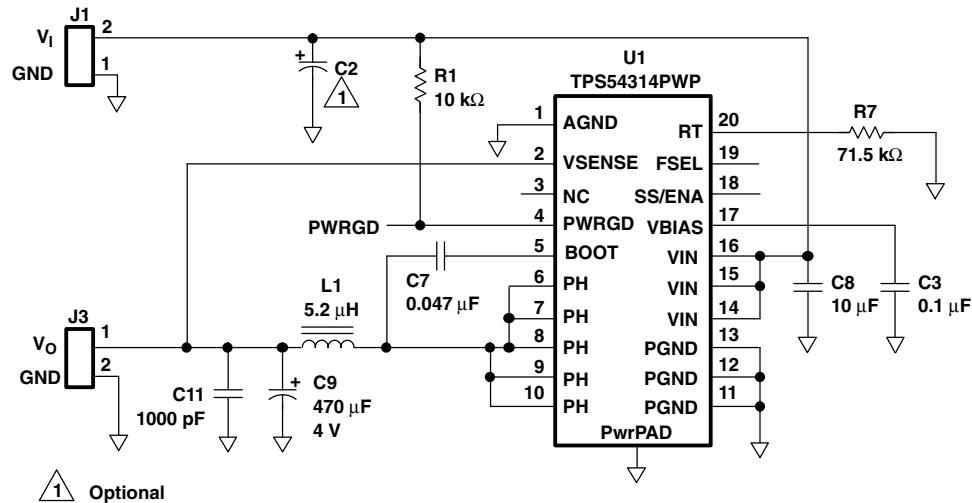

Figure 10. TPS54314 Schematic
(1) Specified by design
(2) Static resistive loads only
(3) Specified by the circuit used in Figure 10.
(4) To ensure proper operation when RC filter is used between external clock and FSEL pin, the recommended values are $R \leq 1\text{k}\Omega$ and $C \leq 68 \text{ pF}$.
Figure 10 shows the schematic diagram for a typical TPS54314 application. The TPS54314 (U1) can provide up to 3 A of output current at a nominal output voltage of